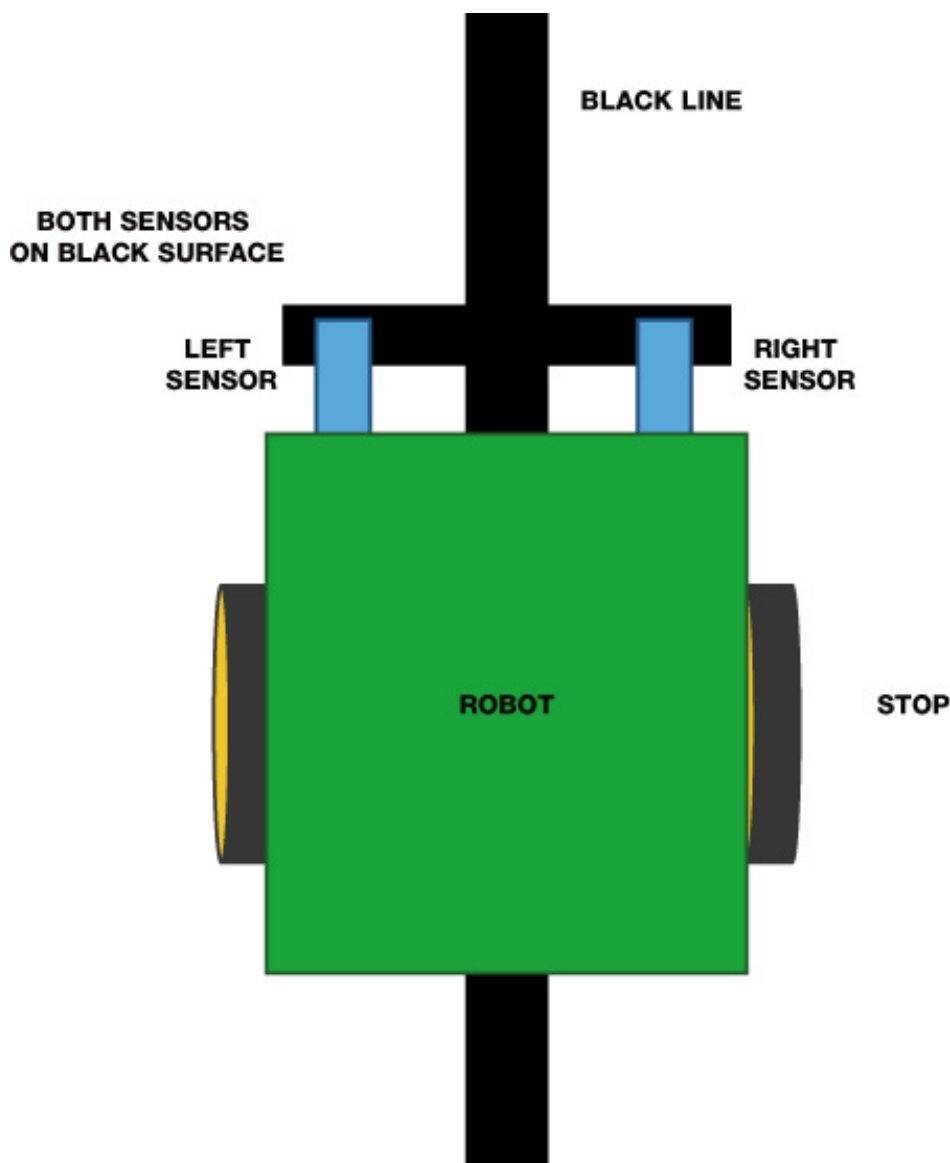

FIGURE 7-8 The robot stops if both sensors read black.
- Finally, if neither sensor receives a reflected signal, then they must *both* be reading black, as shown in Figure 7-8 (this won't happen if you're using just a basic loop track). What to do next is up to you, but one option is simply to make the robot stop. If you experiment with other track layouts—for example, a figure 8 shape—you might run into other situations where both sensors detect black. In these circumstances you may want your robot to move forward, turn, or even reverse—play around to find out what works best!